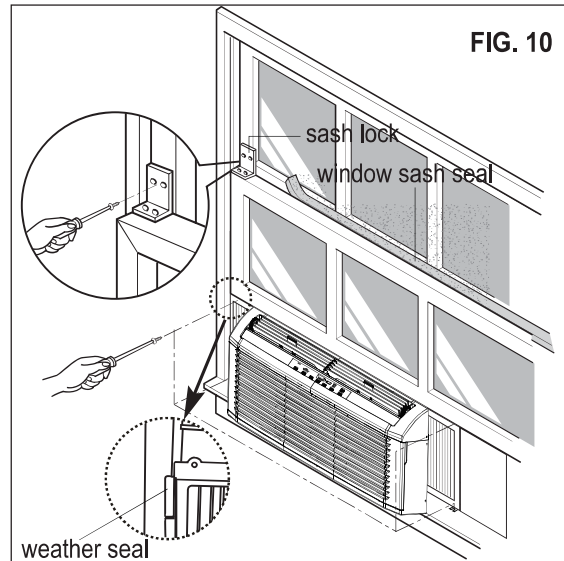

FIG. 10
Expand the filler panels and secure them using 4 screws as shown in FIG.10. When filler panels opens or closes, you may feel a slight resistance. This is normal.
- \* Cut the window sash seal to the window width. Stuff the window sash seal between the glass and the window to prevent air and insect from getting into the room, as shown in FIG.10.
- \* Trim the weather seal (6"X3/4"X1/12") to a proper length, peel off the protective backing and plug any gaps if needed as shown FIG.10.
- \* Install the sash lock bracket to prevent window from being raised which may result in unit falling, as shown in FIG.10.